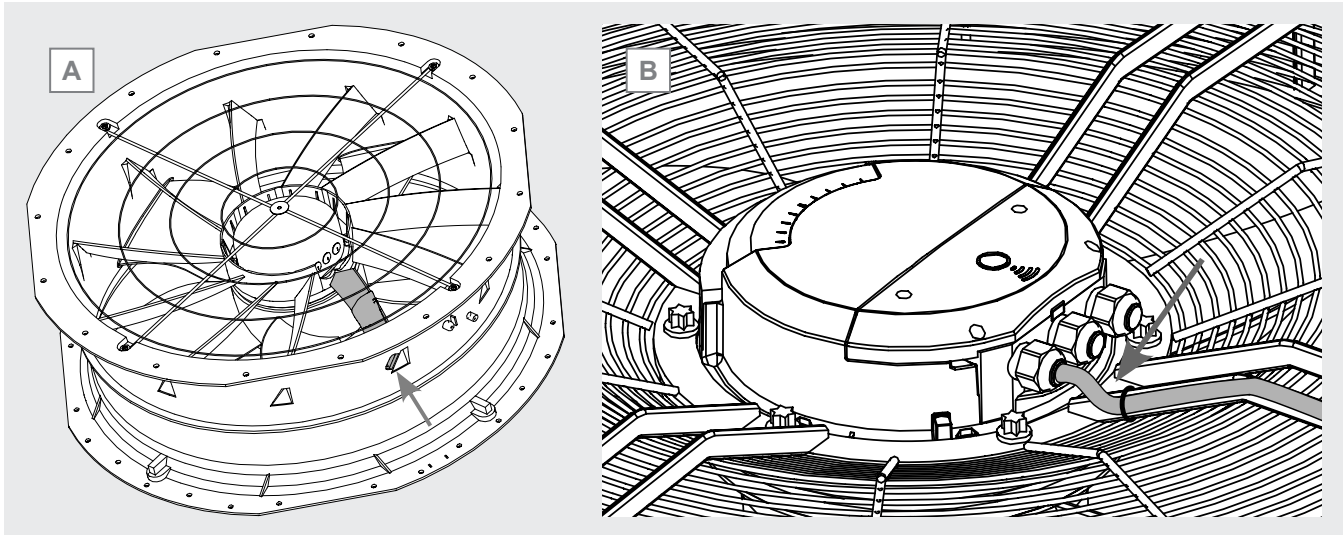

Figure 6
- 2.20 Secure the power cable with electrical ties to the grille (radial or planar-mounted motorfan) or to the appropriate cable routing bracket (motorfan with integrated fan shroud). See Figure 6 A.
- 2.21 The cable entering the cable gland of the junction box should be fixed in such a way as to form a U. See Figure 6 B.